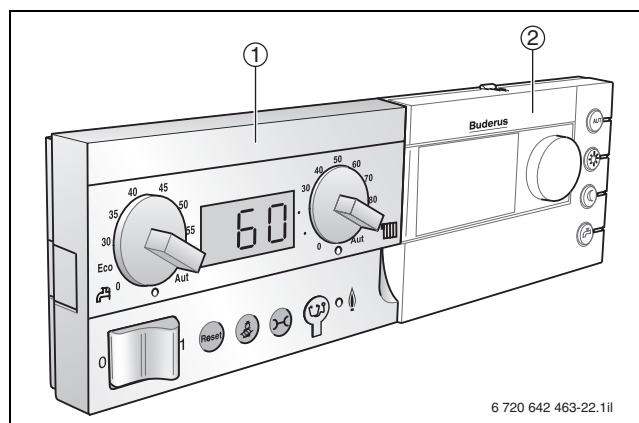

Fig. 23 Logamatic BC10 base controller with clipped-in RC35 programming unit
The Logamatic BC10 contains all elements required for the standard operation of the heating system with a Logamatic EMS. In addition, the Logamatic BC10 base controller offers a slot for the RC35 programming unit, which makes further convenient control functions available (→ fig. 23, pos. 2).